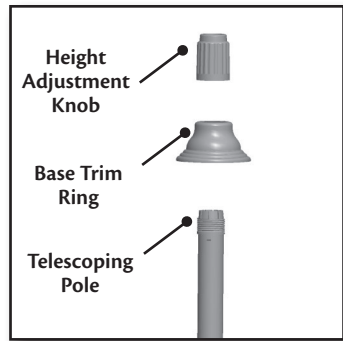

Figure 6
1. Remove the height adjustment knob from telescoping pole by turning it counter clockwise. Also remove the cord clip. Slide the base trim ring onto the pole. Reinstall the height adjustment knob and cord clip. Figure 6.